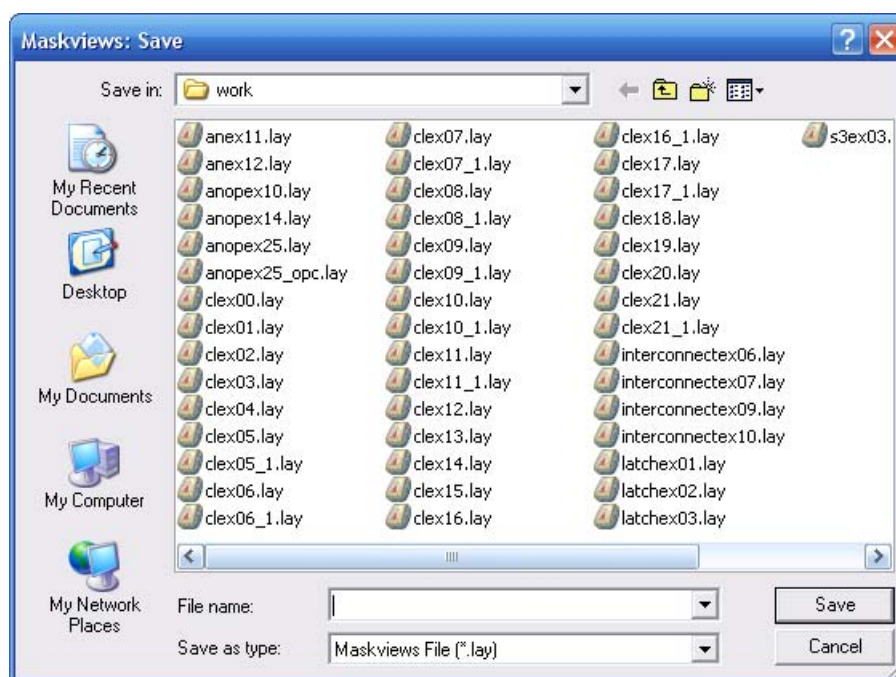

Figure 2-13: Save dialog
- Selecting **File→Save As...** (Figure 2-13) is for saving layout data.